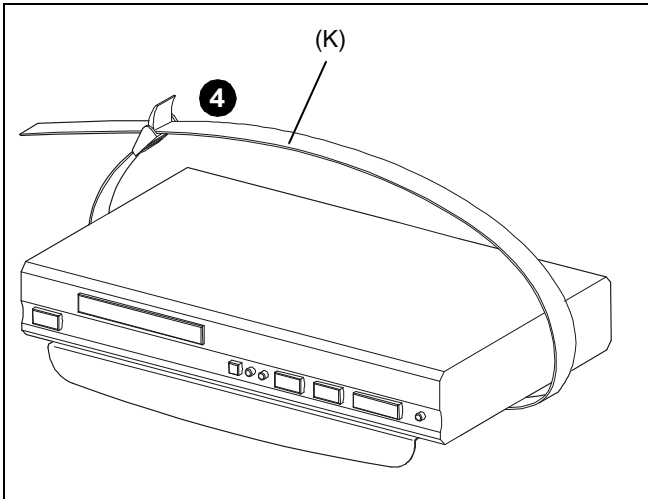

Figure 6
4. Pull strap (K) until tight around equipment and press clasp closed to secure. (See Figure 6)